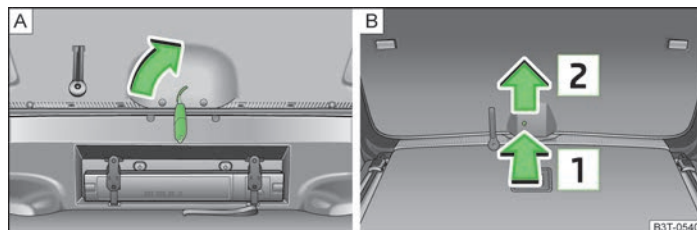

Fig. 20 Emergency unlocking of the boot lid
- Insert the vehicle key into the slot in the trim panel as far as the stop » Fig. 20 - .
- Insert a screwdriver or similar tool into the opening of the trim in the direction of the arrow  » Fig. 20 -  as far as it goes.